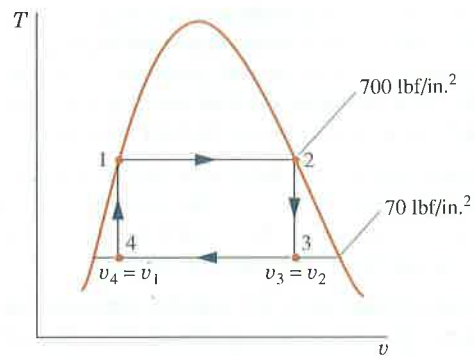

Fig. P3.79
- 3.79** One lb of water contained in a piston–cylinder assembly undergoes the power cycle shown in Fig. P3.79. For each of the four processes, evaluate the work and heat transfer, each in Btu. For the overall cycle, evaluate the thermal efficiency.